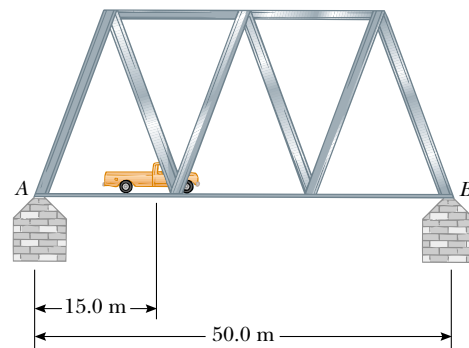

Figure P12.39
- 39.** A bridge of length 50.0 m and mass $8.00 \times 10^4 \text{ kg}$ is supported on a smooth pier at each end as in Figure P12.39. A truck of mass $3.00 \times 10^4 \text{ kg}$ is located 15.0 m from one end. What are the forces on the bridge at the points of support?